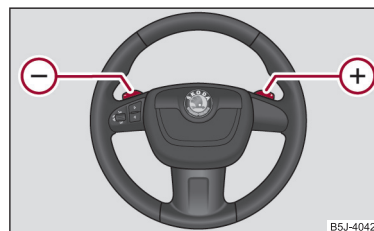

Fig. 102 Multifunction steering wheel: manual shifting
- Press the right rocker switch (+) ⇒ fig. 102 for the multifunction steering wheel.
- Press the left rocker switch (-) ⇒ fig. 102 for the multifunction steering wheel.